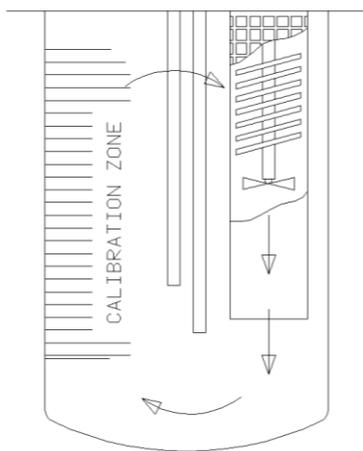

Fig.1
- Don't immerse the probe up to the bottom of the bath; the best calibration area is: 3÷4cm far from the bottom and from the top of the liquid (fig. 1).